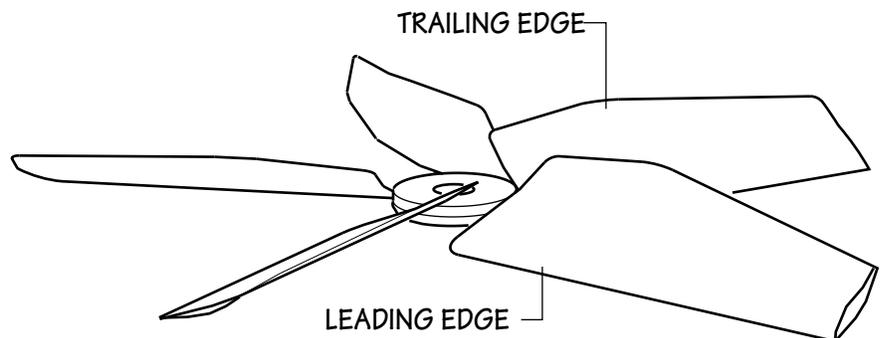

Figure 2
- 4—Place the blades **3** in the blade sockets of the lower hub. On fans where the blades overlap at the hub be sure to have the leading edge under the trailing edge of the forward blade. Refer to **Figure 2**.